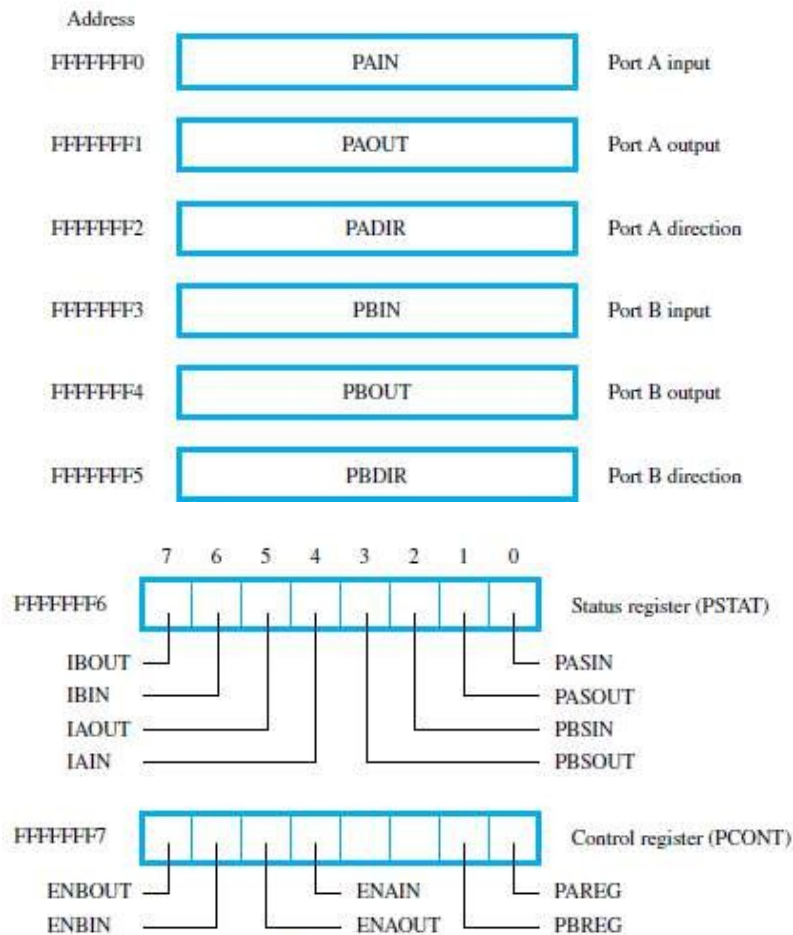

Figure 10.6 Parallel interface registers.
- **Addressable Registers** are (Figure 10.6):
- $PASIN = 1 \rightarrow$  When there are new data on port A (Figure 10.6).